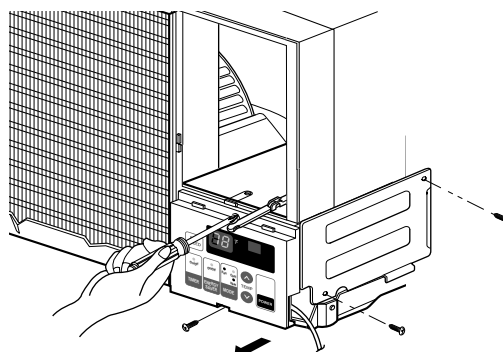

Figure 16
8. Re-install the components by referring to the removal procedure, above. (See Figure 16)